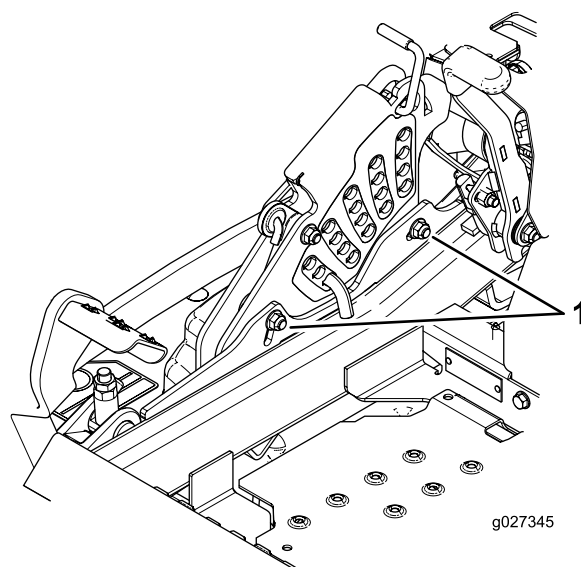

Figure 92
12. To adjust the single point system, loosen the 2 bolts at the bottom of the height-of-cut plate (Figure 92).
14. Tighten the 2 bolts at the bottom of the height-of-cut plate (Figure 92).